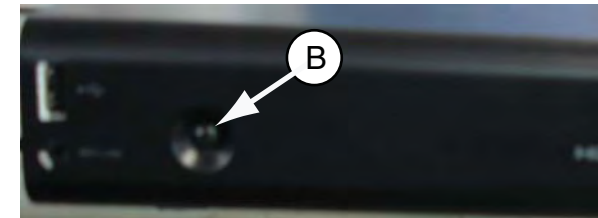

Figure 5
- 1 screw "B" each on the left & right side as shown in figure 5.